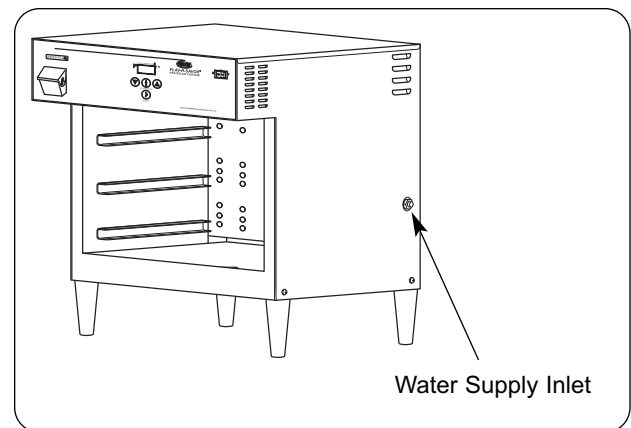

Figure 8. Plumbing Connections
5. Connect filter cartridge assembly to equipment water supply inlet. (See Figure 8.)